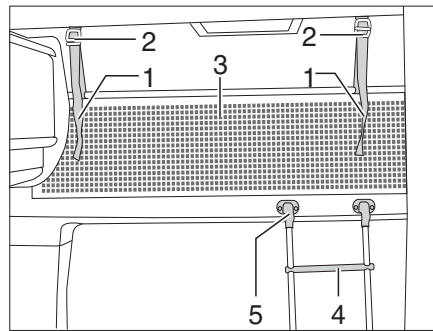

Fig. 139 Overcab bed
Always use the access ladder (Fig. 139,4) provided as standard to access the overcab bed.
- Attach the ladder with the rails to the holder (Fig. 139,5) on the alcove panel.
The safety net (Fig. 139,3) is stored as standard between the mattress and slatted frame. Only use the safety net if persons are already in the alcove.
- Fasten the retaining straps (Fig. 139,1) to the holders on the ceiling (Fig. 139,2).